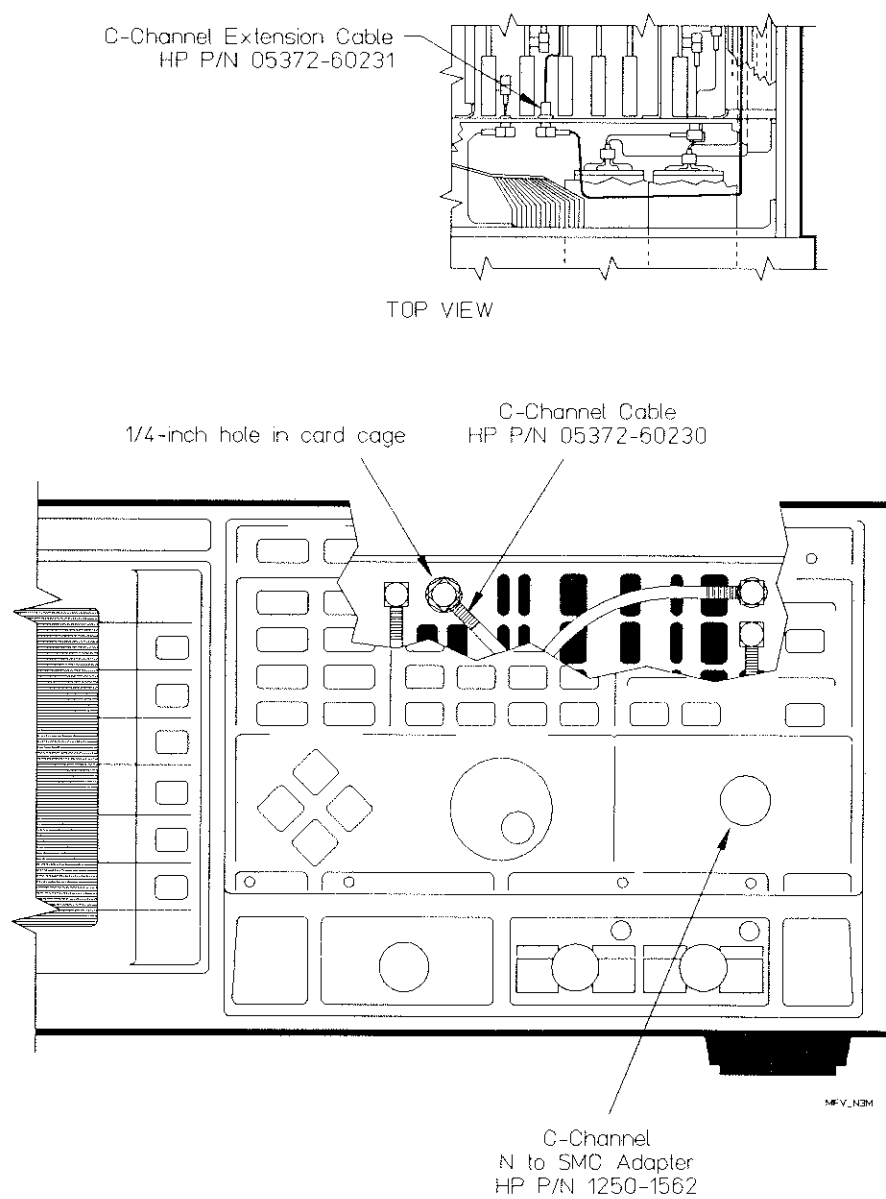

Figure 1-4. Front View of Option 030 Installation
- a. Place the N-to-SMA adapter through the front panel hole marked C-Channel. The "N" connection should stick out of the front panel about 3/4 inch (see *Figure 1-4*).
- a. Locate the 1/4 inch round hole in the card cage located behind the front panel and directly to the right of where the white External Arm Input cable connects to the card cage (see *Figure 1-4*).
- a. Connect one end of the C-Channel cable to the female end of the C-Channel Extension cable which should be sticking out of the card cage directly to the right of where the white External Arm Input cable connects to the card cage. (see *Figure 1-4*).